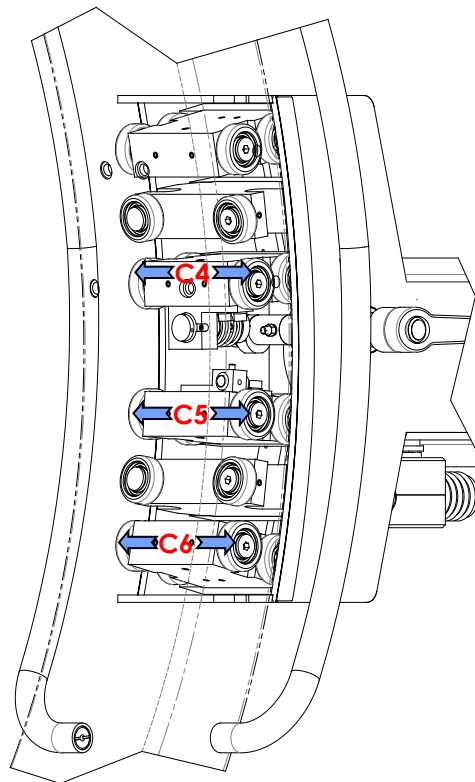

Fig. 16b
d) Repeat the steps in part c) above for all the other pairs of bearings (C4), (C5) and (C6) (see Fig.16b).